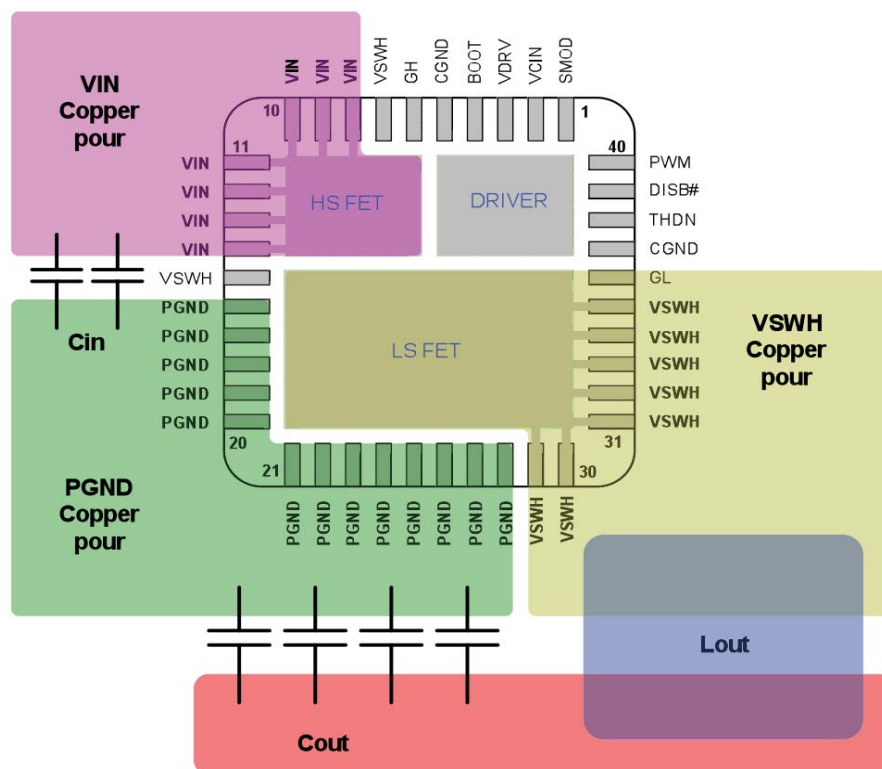

FIGURE 7. PCB LAYOUT FOR MINIMIZING CURRENT LOOPS
- Place a 0.1μF and multiple 10μF or greater ceramic capacitors directly at device between V_{IN} and PGND as indicated in Figure 7. This is the most critical decoupling and reduces parasitic inductance in the power switching loop. This will reduce overall electrical stress on the device as well as reduce coupling to other circuits. Best practice is to place the decoupling capacitors on the same PCB side as the device.
- Place PVCC, V_{CC} , and BOOT-PHASE decoupling capacitors at the IC pins with the shortest loop as shown in Figure 7.